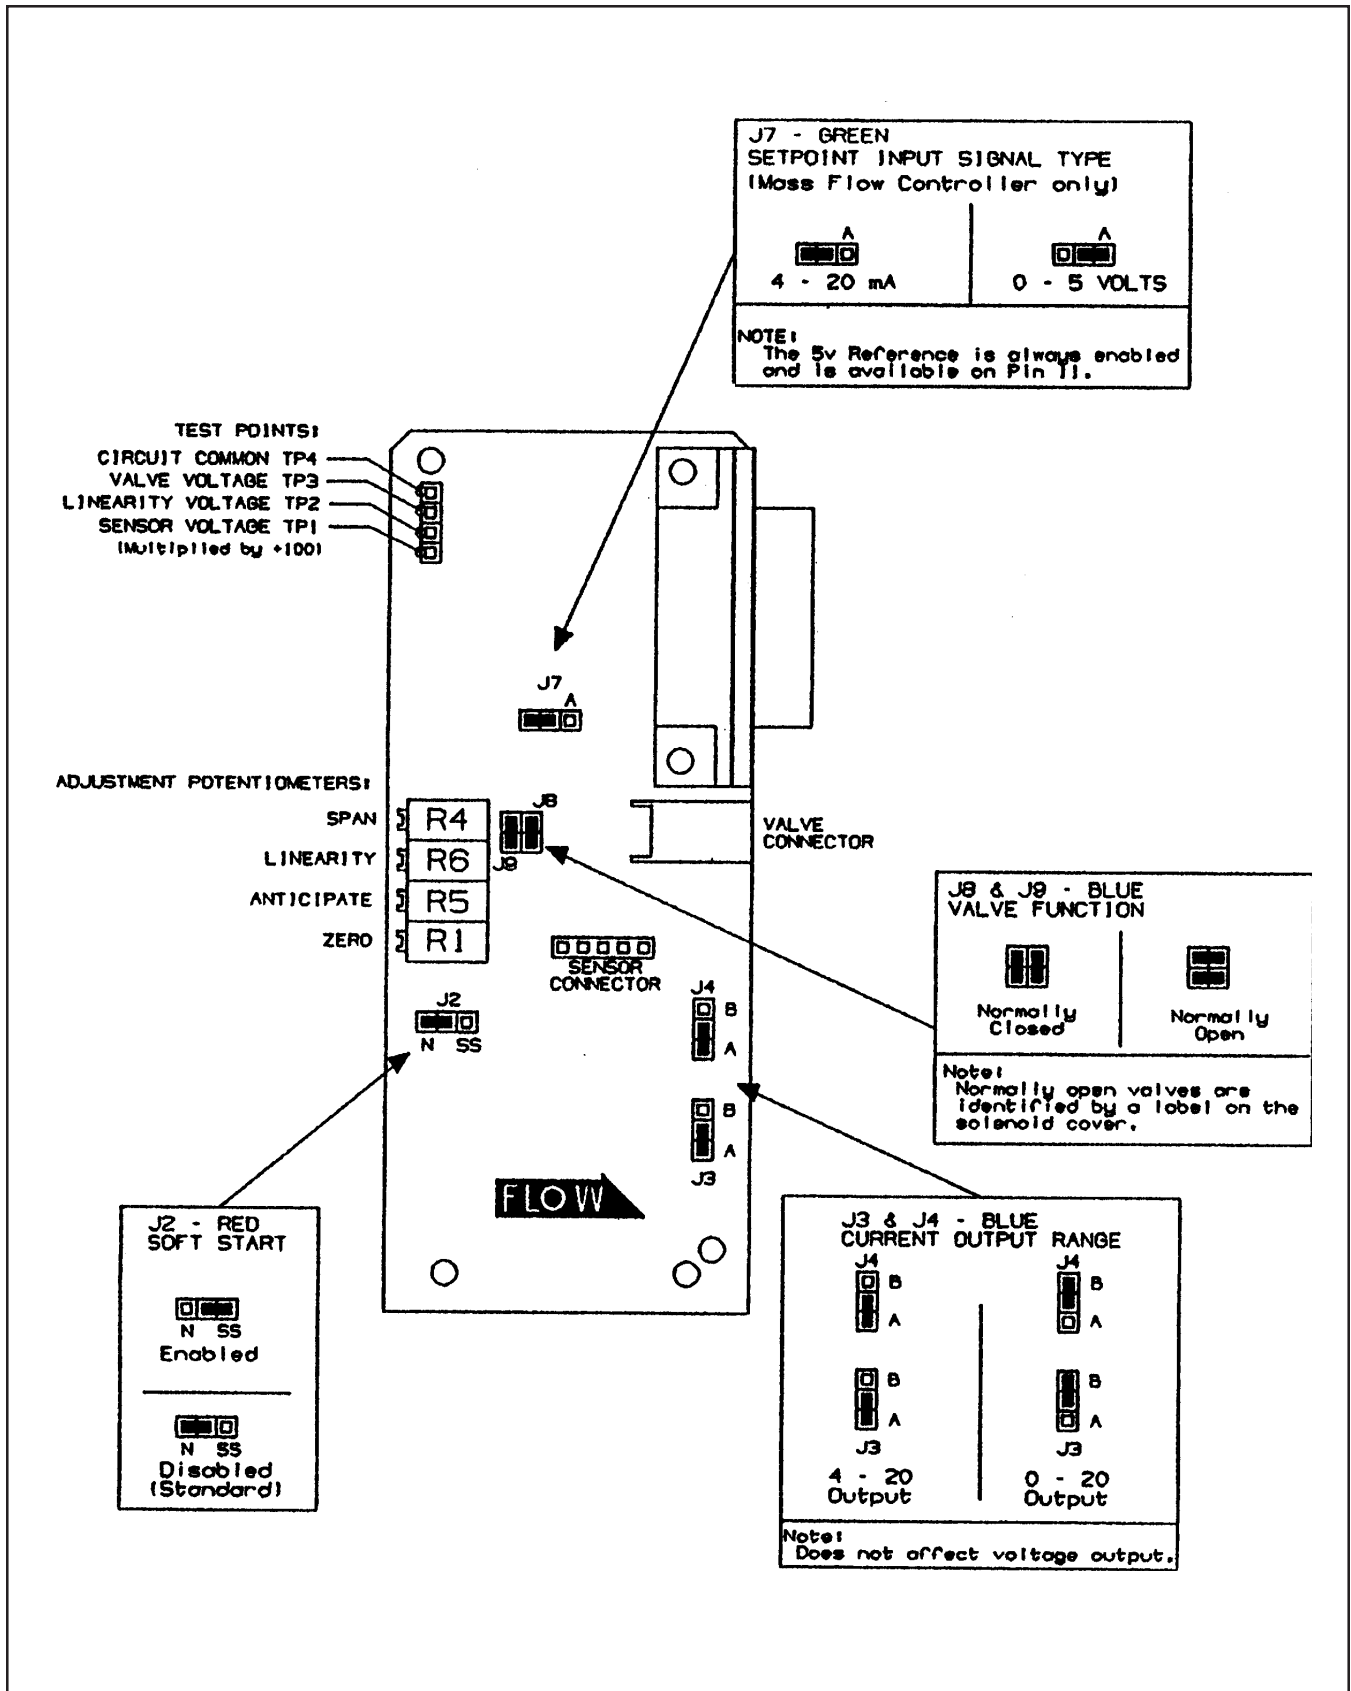

Figure 3-5 PC Board Jumper Location & Function
NOTE: To obtain access to the jumpers, the electronics cover can must be removed. Disconnect the power to the mass flow controller and any cables to the D-connector and the valve coil connector. Remove the three screws at the base of the can and remove the top jack post of the D-connector. Remove the can. The can must be replaced before returning the unit to service. Refer to Section 2-6 for the proper electrical hook-up. Refer to Figure 3-5 for pc board jumper locations and functions.
4. Verify that all user selectable jumpers are in their desired positions. Refer to Figure 3-5.